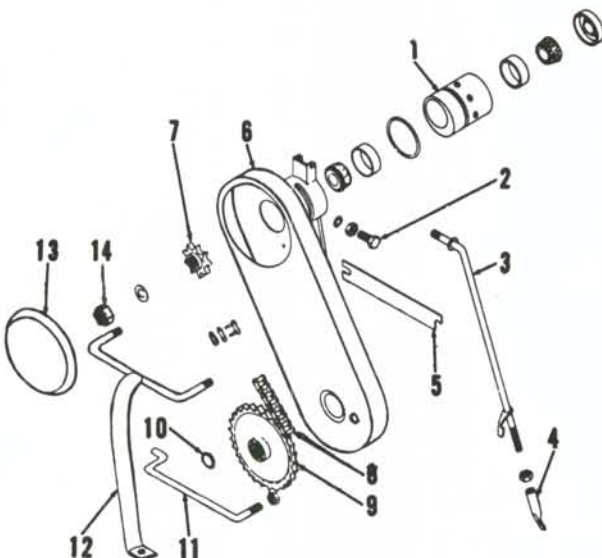

Fig. 7—Exploded view of drive chain housing, supports and associated parts used on early models.
The drive chain runs in an enclosed chain housing which contains oil to a level approximately even with lower sprocket hub. SAE 80 Hypoid gear lubricant or "SKI-DOO" chain case oil are recommended as the lubricant. Single track models are equipped with a level plug (10—Fig. 7). On Alpine and Invader models, insert a wire through top inspection opening as shown in Fig. 1 and maintain oil level 3 to 4 inches from bottom of case.
clamps (11 & 12—Fig. 7) and support rod (3) which hold the chain case to vehicle frame. Work the drive axle seal from lower end of chain case, work the axle from splined lower sprocket and lift off the chain case and driven sheave as an assembly. Be careful not to lose the shims (5) if shims are present. These shims, together with spacer shims located behind torque converter drive sheave, are used for drive belt alignment when vehicle is assembled.
No. SK-1623, which can be used for measuring the offset. Adjust by varying the shim pack (5—Fig. 7) or by removing the drive pulley and adding spacer shims at point shown at (C—Fig. 9). Distance (B) between sheave rims should be $3\frac{1}{4}$ -inches on Chalet Model or $1\frac{1}{8}$ -inches on Olympique, Super Olympique and Alpine Models. Distance (B) can be varied by shortening or lengthening support rod (3—Fig. 3).